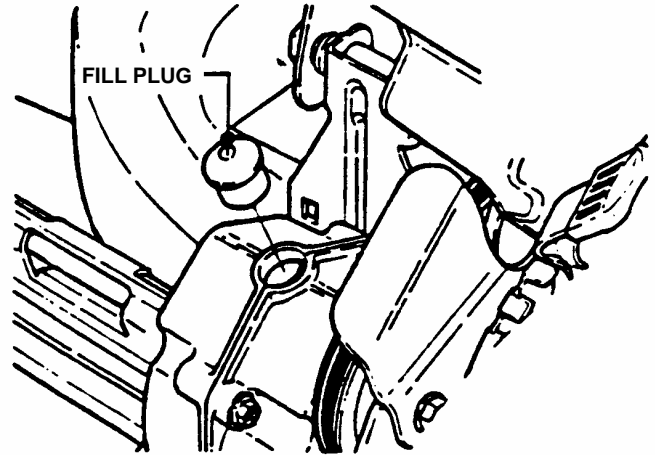

FIGURE 3.2
1. Remove transmission fill plug. See Figure 3.2.
2. If liquid grease IS NOT visible on the input gear (the small gear below the plug hole), add an amount, to cover gear, of Snapper "00" grease. See Figure 3.2.